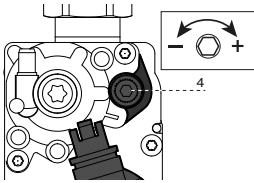

Figure 6 - Max Power CO₂ Adjustment
3. Reinstall the combustion test port. See Figure 6.